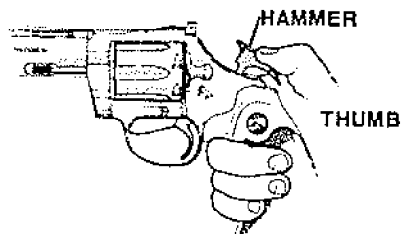

FIGURE 5-
3. (S) 1. *To fire single action*, grasp revolver by its grip, keeping fingers away from trigger and draw hammer fully back (about an inch) to the cocked position where it will be held to the rear (See Figure 5). Remove thumb from hammer spur.